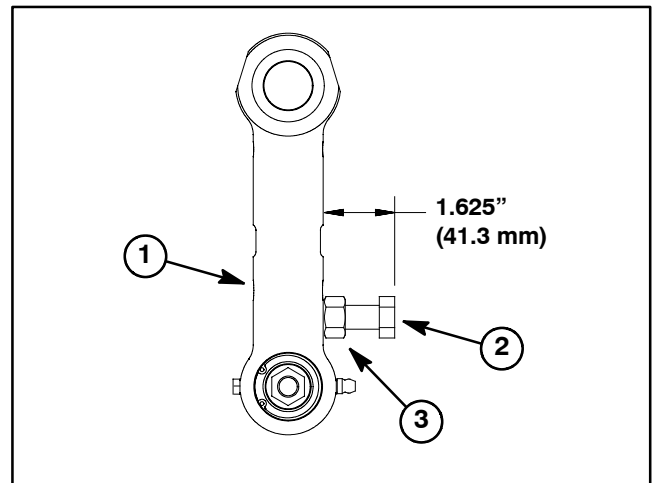

Figure 11
5. If cap screw and jam nut were removed from rear link, install cap screw to allow **1.625" (41.3 mm)** between the head of the screw and the side of the link (Fig. 11).